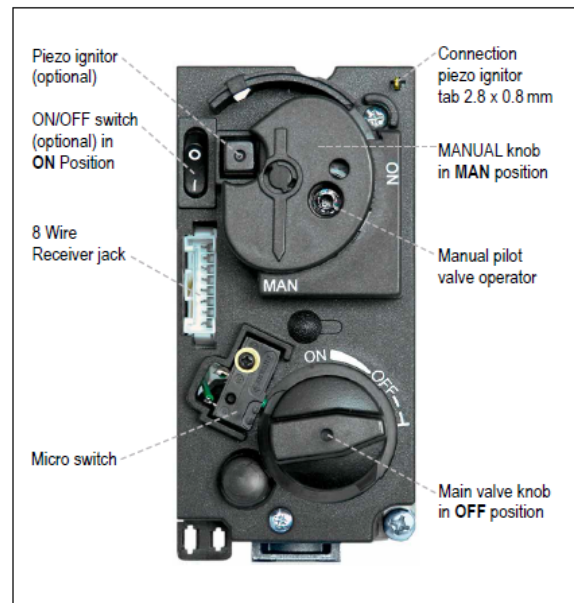

Figure 24: Combination control, cover
5. Wait five (5) minutes to clear out any gas. Verify that no gas is in the area around the appliance, including near the floor. **If you detect gas STOP! Follow "WHAT TO DO IF YOU SMELL GAS" in the safety information on page 3.** If no gas is present, proceed to step 6.
8. Fully push down manual pilot valve operator and hold in, to start pilot gas flow (see figure 24).
Change the ignition cable from the receiver to the valve (see figure 24). Push in the piezo ignitor to ignite. If pilot does not stay lit, wait five (5) minutes and repeat.